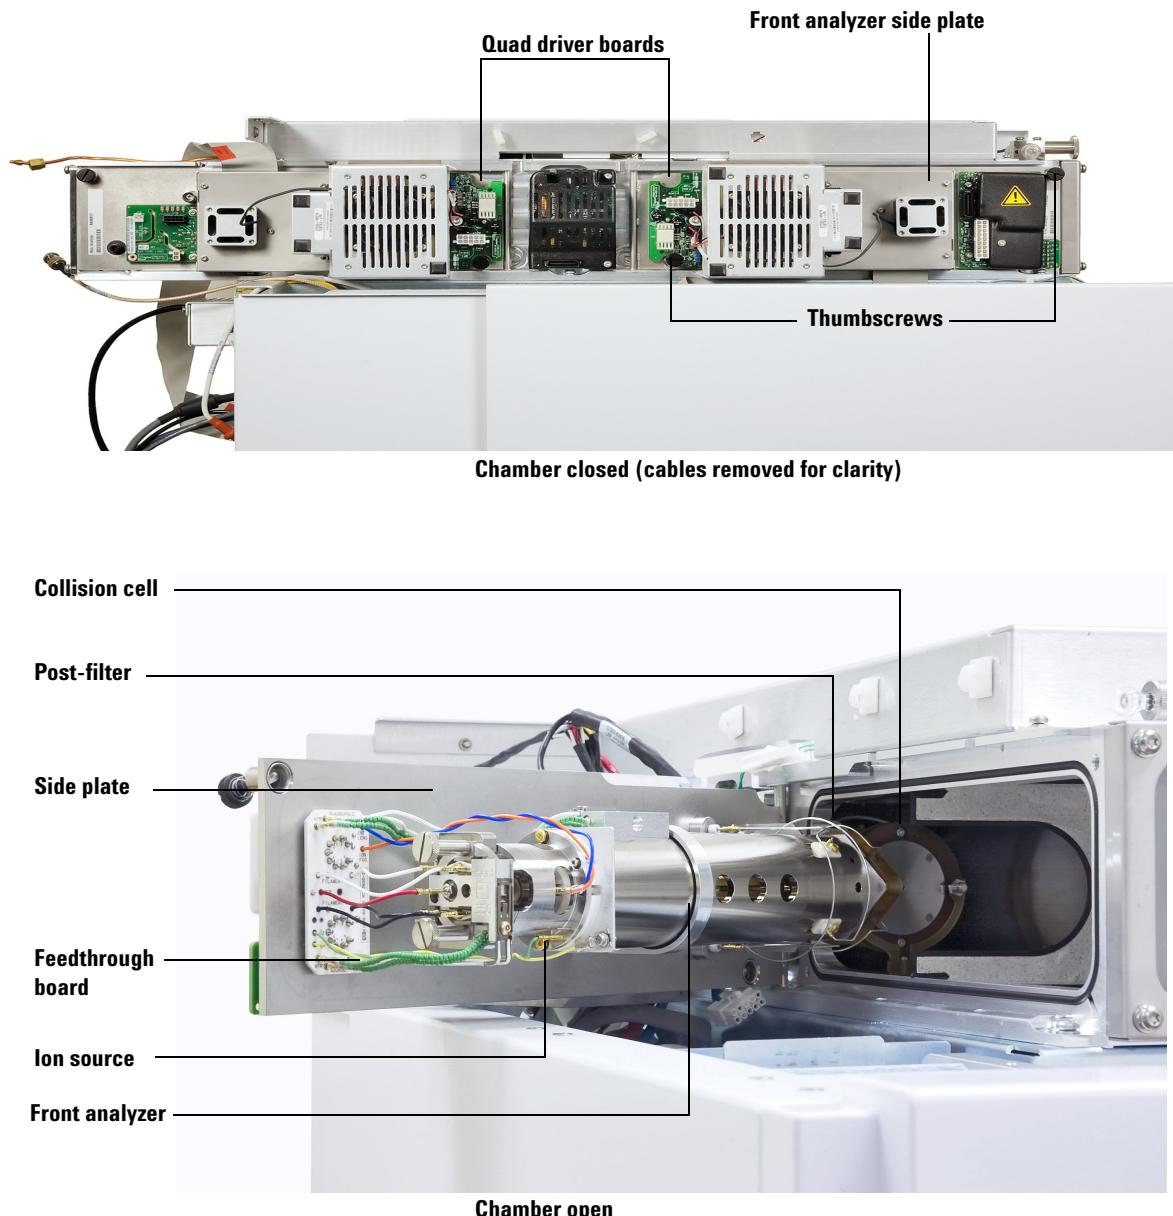

Figure 19 The front analyzer chamber
- 3 Loosen the front analyzer side plate thumbscrews (Figure 19) if they are fastened.